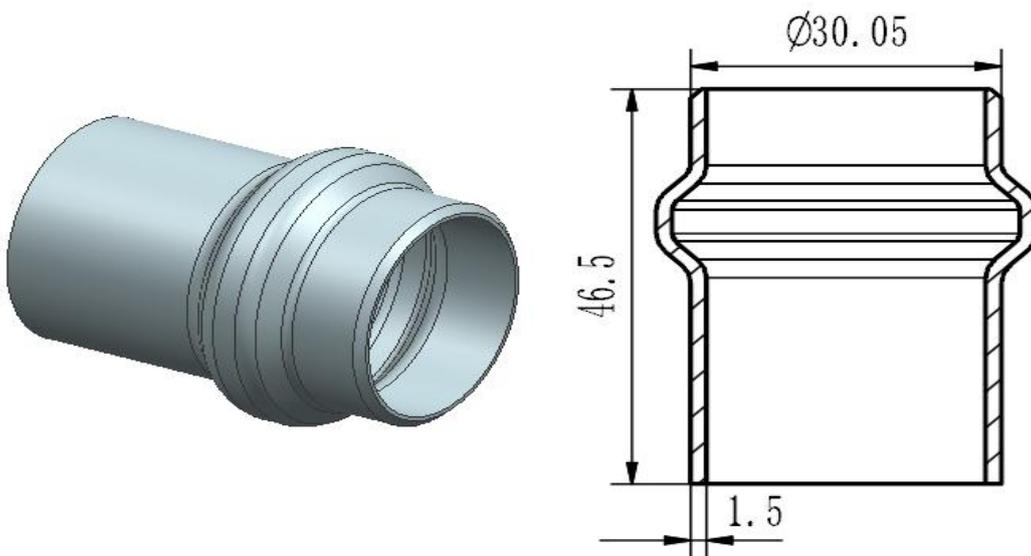

Fig.19
**Exhaust joint** (see Fig 19), Material/thickness: X15CrNiSi20-12(DIN 1.4828)( stainless steel);